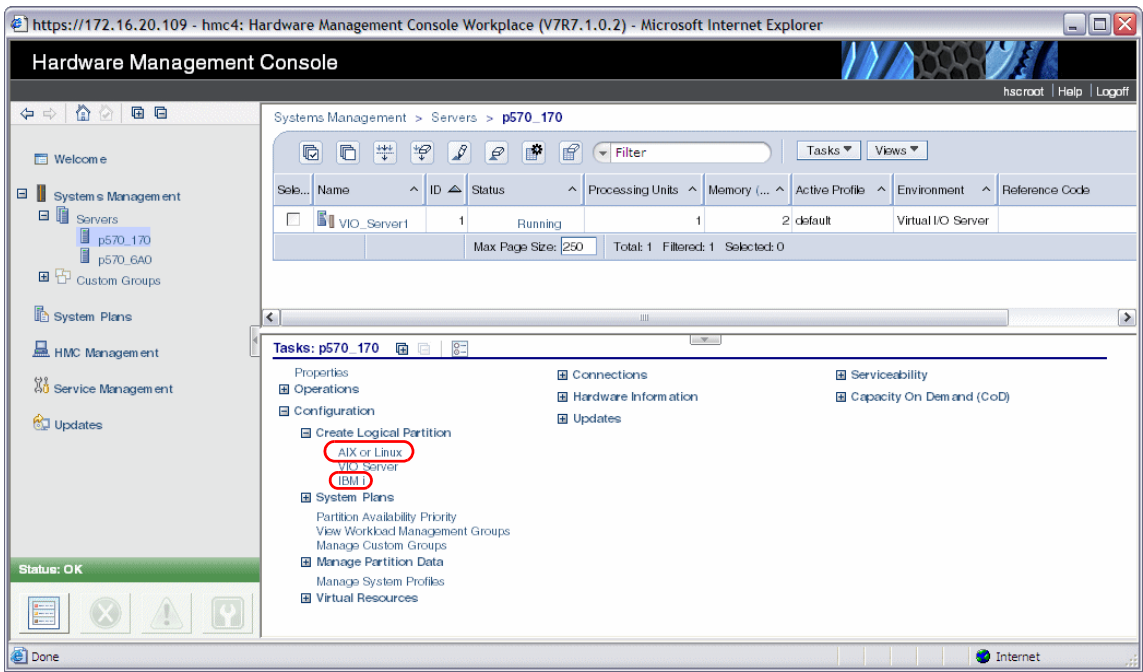

Figure 13-1 Creating client logical partition
1. Restart the Create Logical Partition Wizard by selecting the server to create the logical partition on and choosing **Configuration** → **Create Logical Partition** with selecting either **AIX or Linux** or **IBM i** as shown in Figure 13-1.